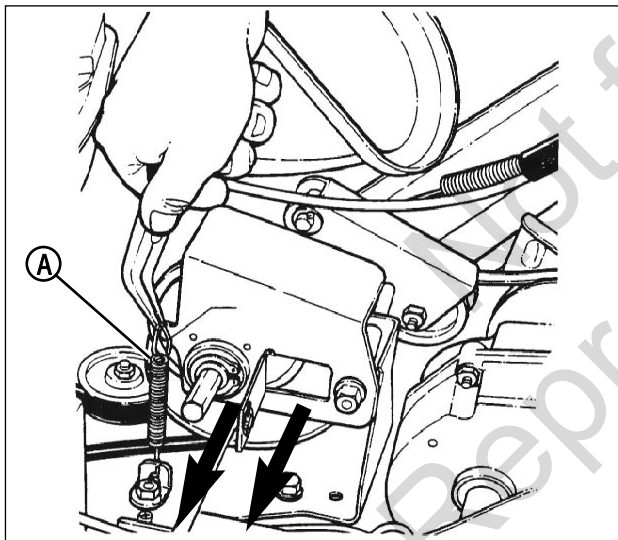

Figure 30: Removing the driven disc assembly
- Using needle nose pliers, unhook the drive spring (A, Figure 30) and slide the driven disc assembly off the hex shaft.